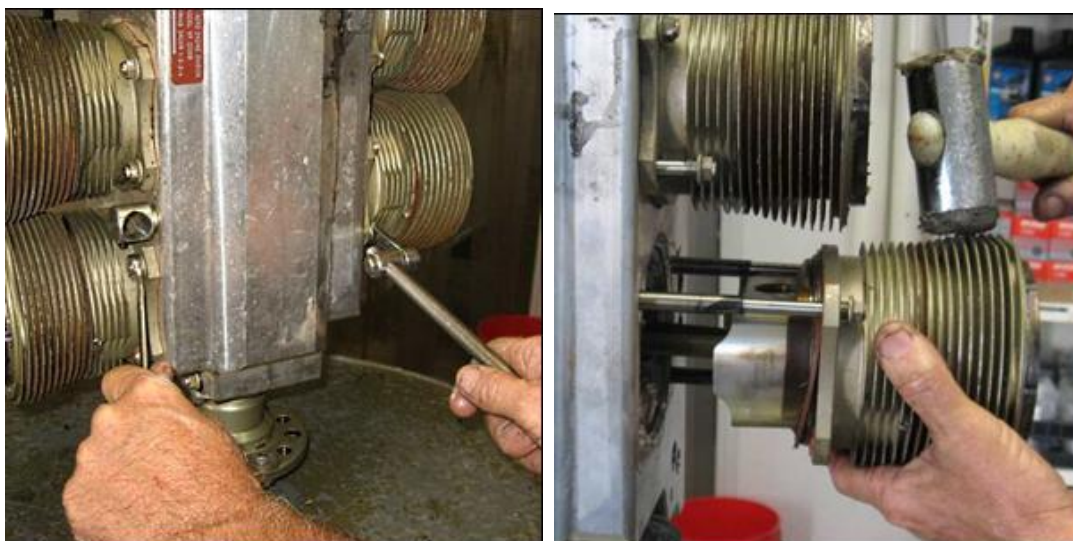

Figure 53 – Remove Cylinders
- Undo the base nuts from each cylinder pair until one nut can be removed from the cylinder stud and then pull each cylinder off of the piston as shown in Figure 53. Note that these through bolts and studs are normally replaced at overhaul – see Section 5 for details.